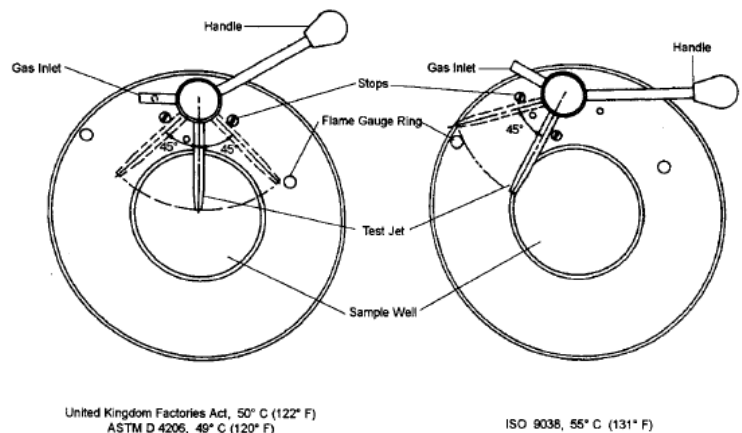

Figure 1. Test Jet Assembly
10. Engage the threads of the fuel supply valve assembly to the external adapter. Be sure that threads are fully engaged to prevent leakage of gas. Press the clear tubing onto the fuel supply valve and onto the gas inlet of the test jet assembly. Be sure that the stops for the test jet assembly are located as shown in Figure 1 dependent on the specific test method requirement.
11. Press primary power switch to "I" (ON). Adjust temperature control knob while depressing Preset and turn temperature control knob to cause digital readout to be at approximately 149°F (65°C). Release the Preset switch. The digital readout and the mercury-in-glass thermometer will indicate rising cup temperature. Turn the temperature control knob counterclockwise and switch instrument primary power switch to "O" OFF.